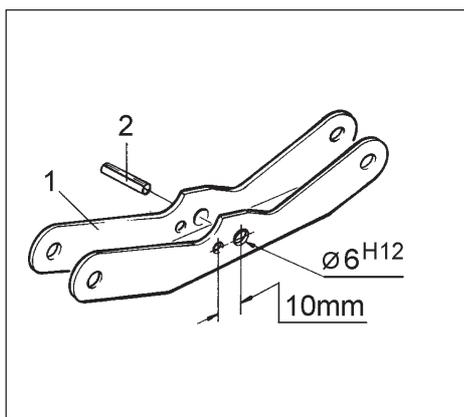

Fig. 26.61
- Remove expansion pin of the tipping lever (Fig. 26.61/1)
- Drill new hole ($\varnothing 6^{H12}$ mm) into tipping lever according to Fig. 26.61
- Drive new expansion pin 6 x 45, DIN 1481 (Fig. 26.61/2) into the tipping lever (Fig. 26.61/1)